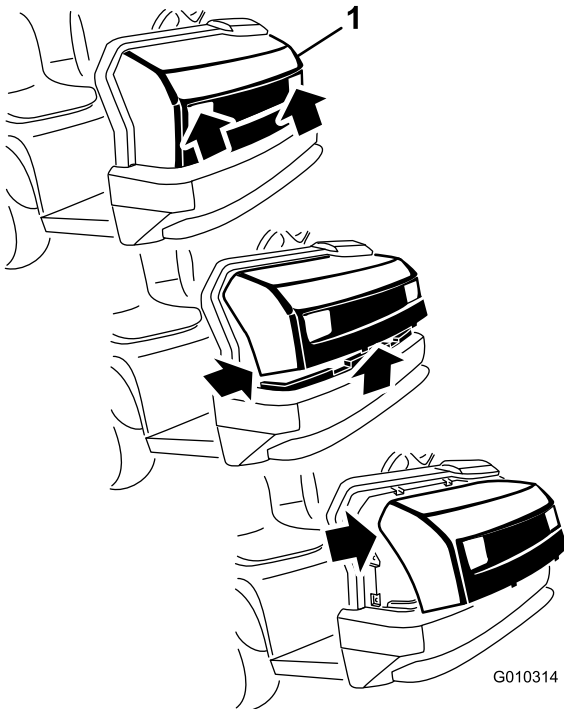

Figure 26
3. Pivot the top of the hood forward and unplug the wire connectors from the headlights (Figure 26).
2. Insert the top mounting tabs into the frame slots (Figure 26).
3. Insert the lower mounting tabs into the frame slots (Figure 26).
1. While grasping the hood in the headlight openings, lift up the hood to release the lower mounting tabs from the frame slots (Figure 26).
2. Pivot the bottom of the hood upward until you can pull the top mounting tabs from the frame slots (Figure 26).